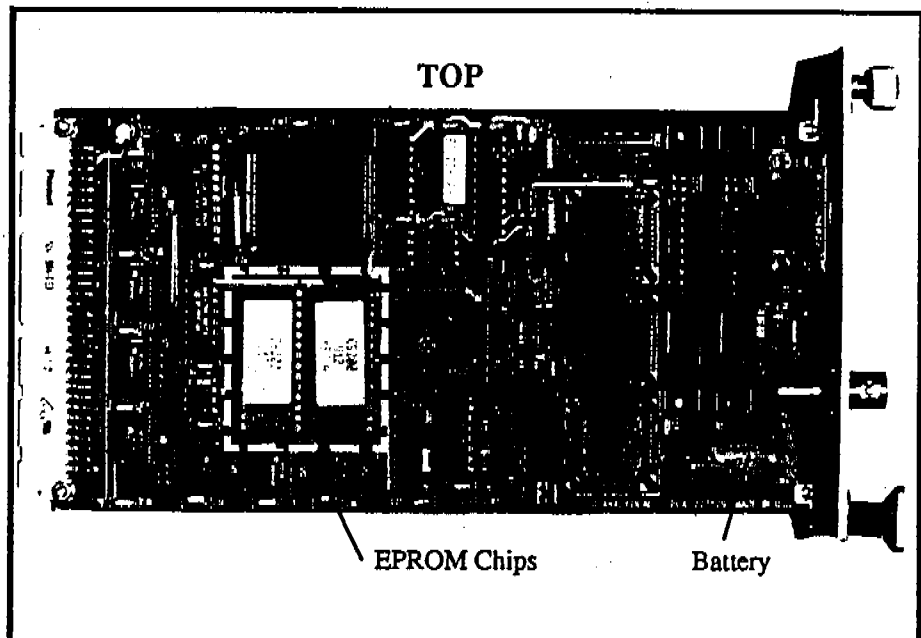

Fig. 2.9 CPU Card
- Pay particular attention to the position of the notches at the tops of the chips. The notches must "point to" the top of the CPU Card. Orient the Chips as shown in Fig. 2.9. Insert the Chip marked "U17" into the area on the CPU Card marked "U17." Similarly, insert the Chip marked "U18" into the area on the CPU Card marked "U18." The chips must be inserted completely and correctly.
- Orient the Battery as shown in Fig. 2.9. The "+" lead (as marked on the Battery's side) should be inserted into the socket also marked with a "+." After proper Battery orientation is confirmed, insert both leads into their corresponding sockets.